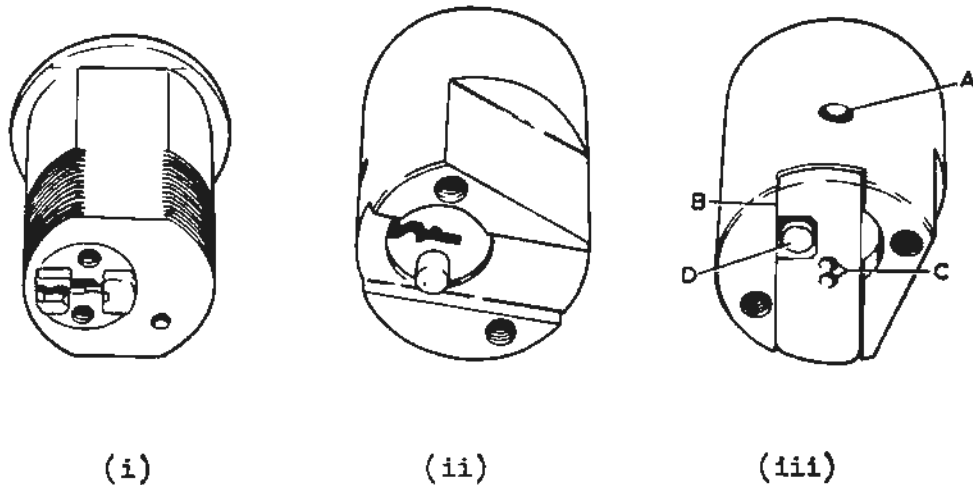

FIG. 3.
- E. Mortice F. Mortice Locating Plunger (See Fig.3)
- G. Mortice Operating Peg (See Fig.3)
Dismantle the lock until it is in the state as shown in one of the illustrations in Fig.3 taking care to note the order of dis-assembly. Note that locks (ii and iii) are boot locks and lock (i) is a door lock. Obtain a 2" length of metal rod $\frac{23}{64}$ " in diameter, (D Fig.1) a .0015" feeler gauge and a length of stiff wire.
Insert the wire through the hole in the lock body (A iii Fig.3) and push against the plunger which retains the barrel in the lock, slip the feeler between the barrel and the body, easing it between the plunger and the groove: this will enable the barrel to move lengthwise. Insert the key and push